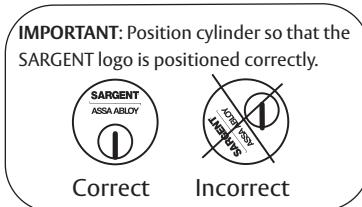
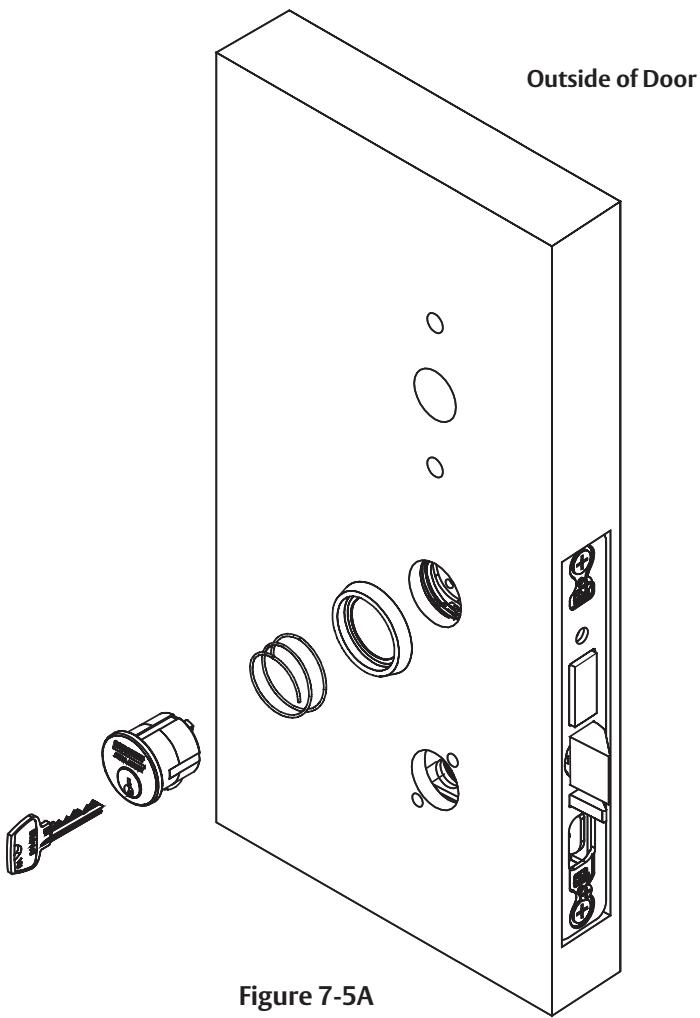

Figure 7-5B
Figure 7-5A
1. Slide the spring and the rosette onto the cylinder. (Figure 7-5A)
3. Insert key 75% of the way and utilize the key to rotate the cylinder further into the cylinder hole. **NOTE:** Do not attempt to tighten all the way.
4. Verify that orientation of cylinder has the SARGENT logo as depicted in Figure 7-5B.